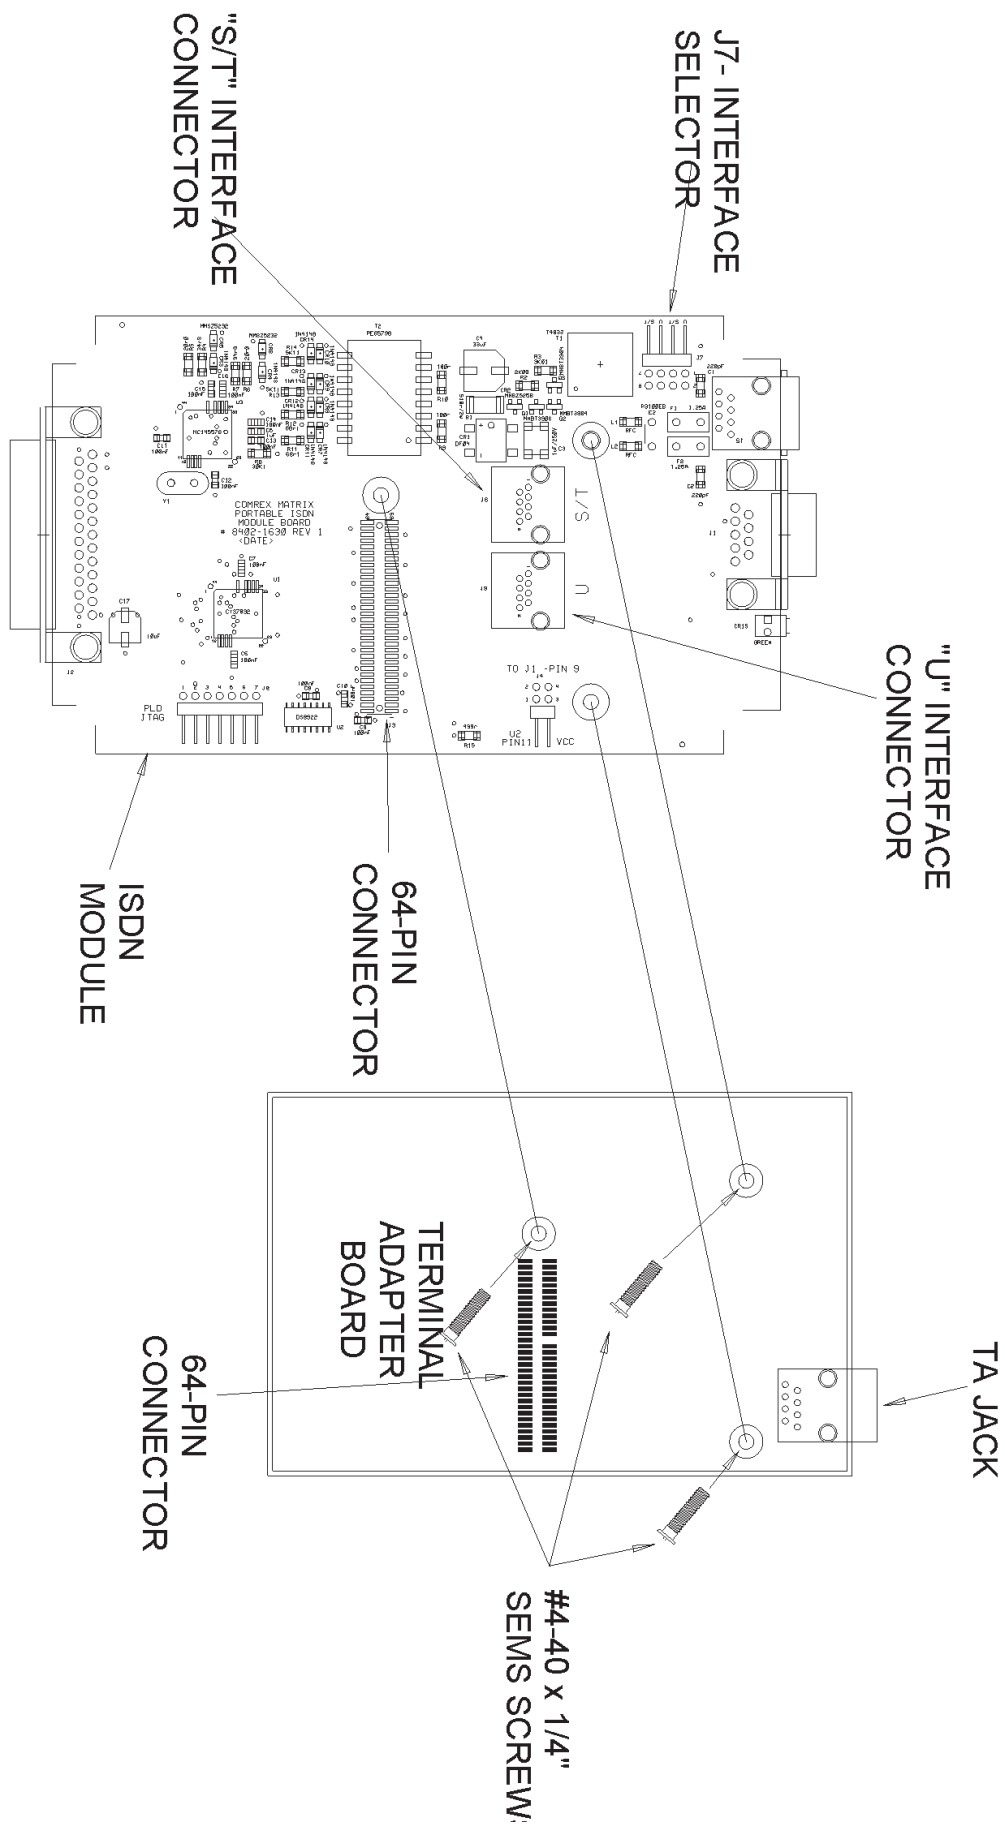

FIGURE 5 - CHANGING THE PORTABLE ISDN MODULE BETWEEN "U" AND "S/T" INTERFACE
- D. Remove the 3 #4 screws holding on the top board, as shown in Figure 5 on page 56.
- G. Find the J7 header as shown in Figure 5. Move the two jumpers to the "U" locations for "U" interface operation, or to the "S/T" location for "S" interface operation.